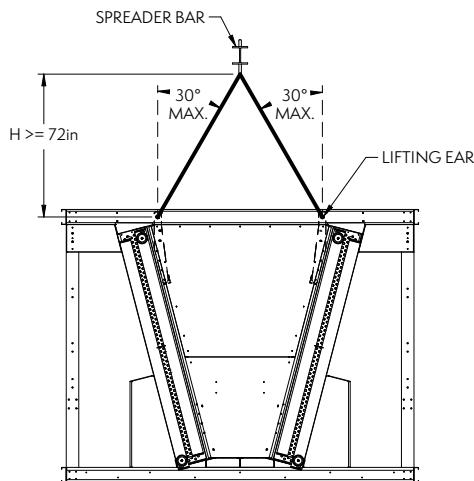
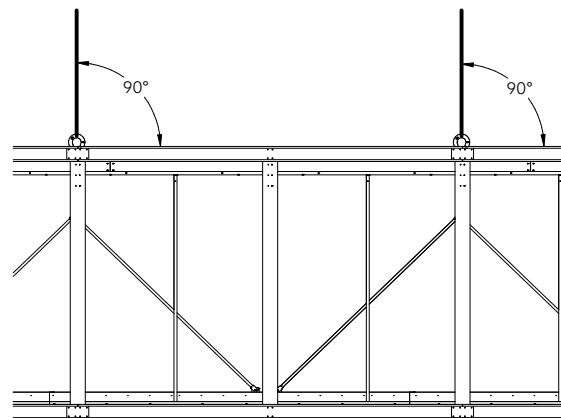

Figure 20.1 – Lower Section End Elevation View
Figure 20.2 – Lower Section Side Elevation View
3. Care must be taken to ensure that the ‘H’ dimension for the crane lift is greater than or equal to 6’ (1.8m) from the lifting ears as shown in Figure 20.1. When viewed from the side, the lifting angle must **ALWAYS** be 90 degrees (perpendicular) to the top of the unit, as shown in Figure 20.2. The centerline distance between the lower section lifting ears on the end elevation view is 5’ 5-3/4” (1670mm).